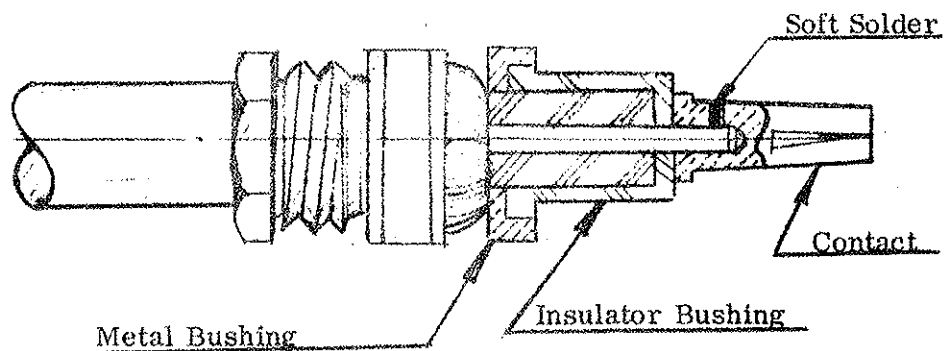

FIG. 4
5. Place metal bushing and insulator bushing onto dielectric as shown in Fig. 4.
6. Place contact onto center conductor and bottom on insulator bushing. Soft solder as shown using 60/40 alloy multicore solder with rosin or ersin flux. Remove any surplus solder from outside of contact and thoroughly clean insulator bushing of chips, flux, etc. (Fig. 4).